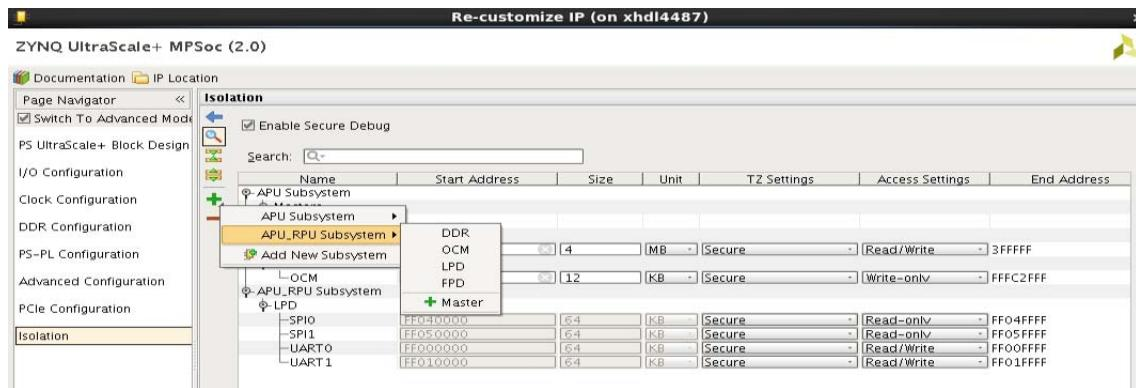

Figure 4-21: Selecting APU_RPU Subsystem and Master
13. Click + and then select **APU_RPU Subsystem** and **Master** as shown in Figure 4-21.